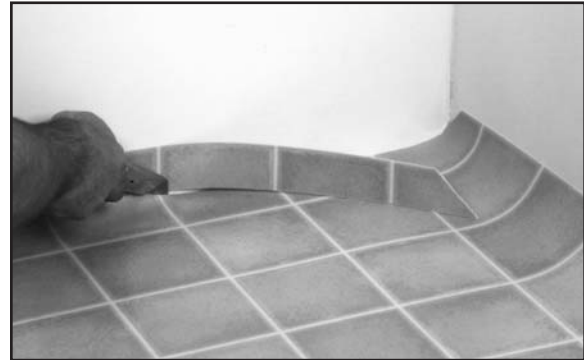

Fig. 55. Trim flooring to fit.
- Trim the material lapped up straight walls (Figure 55). If a floor molding will be used, trim the floor covering about 1/8" (3.2mm) short of the baseboard. Net fitting can be obtained, if required, by placing the side of the knife blade against the wall with the tip of the knife blade at the floor wall juncture and trimming slowly. Unless one has considerable experience with this type fitting, it is advisable to trim off small amounts of flooring at a time until the desired net fit is achieved.